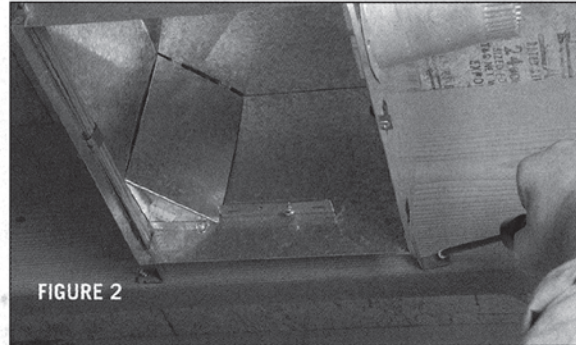

FIGURE 2
3. Remove screw that holds electrical box cover. (Fig. 2)